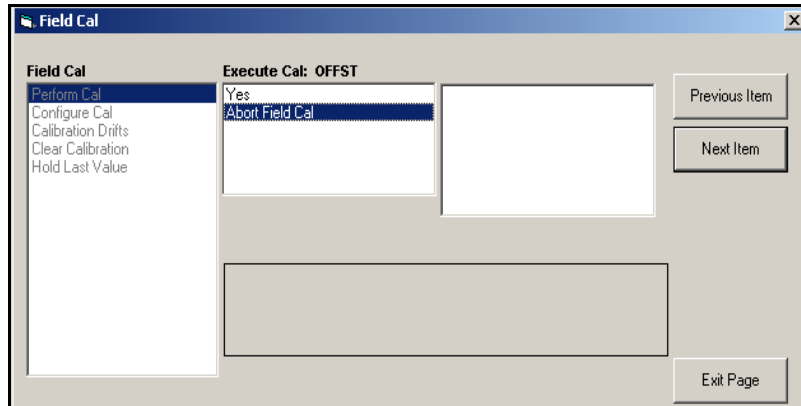

Figure 86: *Perform Cal* Option in the *Field Cal* Menu
- a. Highlight and double-click on the desired option in the left pane. *Figure 86* below shows the first entry (*Perform Cal*) in the *Field Cal* option. The title above the center pane lists the current entry, while the center pane displays the available selections for that entry.